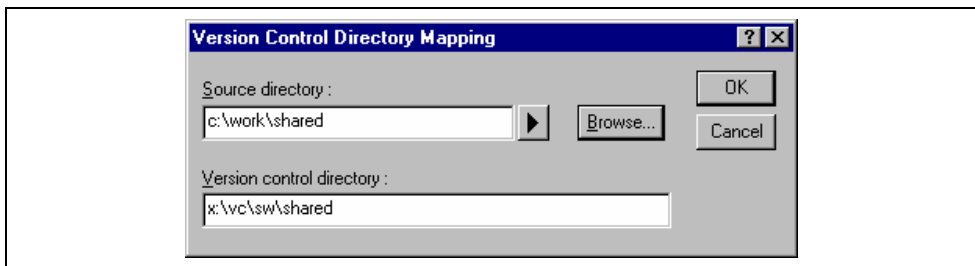

Figure 8.8: Version Control Directory Mapping Dialog
2. Click the "Add..." button that is next to the "Version control directory mappings" list. The dialog shown in figure 8.8 will be displayed.
2. Select the mapping to be modified from the “Version control directory mappings” list and then click the “Modify...” button. The dialog shown in figure 8.8 will be displayed.